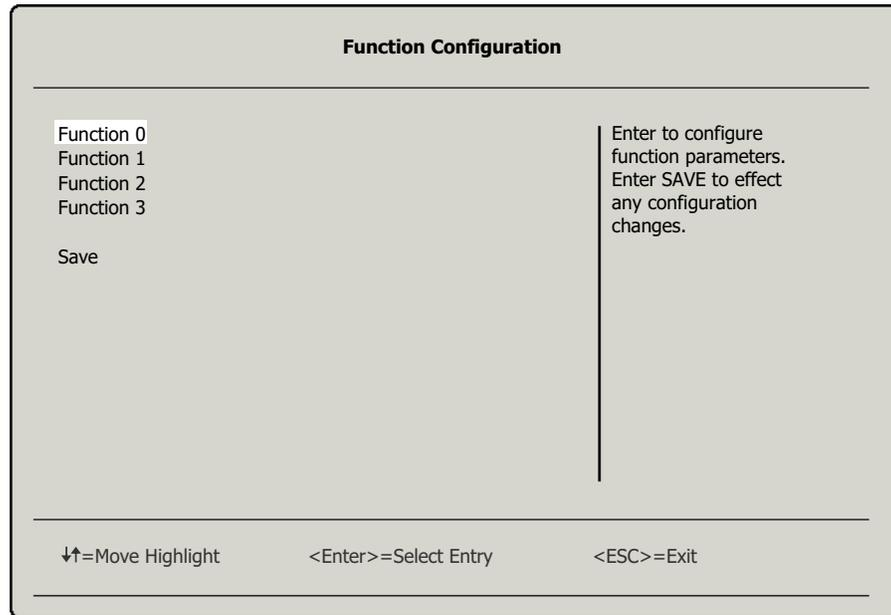

Figure 5-5 Function Configuration panel
9. In the Function Configuration panel (Figure 5-5), which lists the vNIC settings, where four functions represent four vNICs, select **Function 0**.